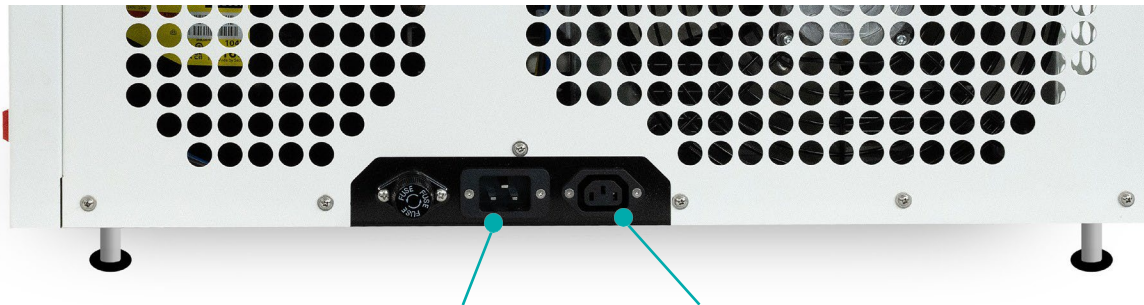

Figure 9
- Locate the power connectors for the main unit and the vacuum pump at the right side of the instrument (Figure 9).
- The instrument's main unit is connected to the wall outlet and the vacuum pump is connected to the vacuum pump power connector. See Figure 9.